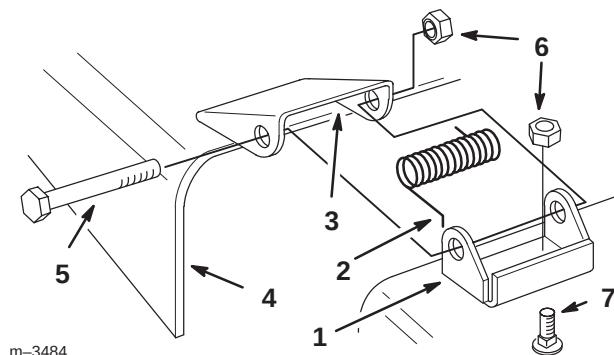

Figure 30
1. Install the mounting brackets onto the mower with carriage bolts (5/16 x 3/4 inch) and locknuts (5/16 inch) as shown in Figure 30.
2. Place the springs into the brackets on the mower with the hooked ends over the raised back (Fig. 30).
3. Align the discharge chute with the holes in the brackets and the spring straight ends in the space under the hinge and above the chute (Fig. 30).
4. Secure the chute to the bracket with bolts through the discharge chute, springs, and brackets. Secure with locknuts (Fig. 30).